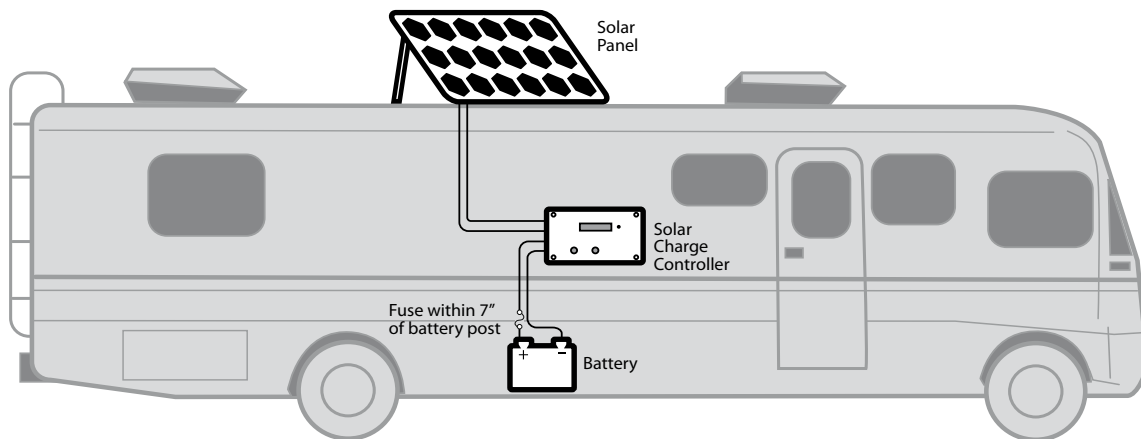

Fig. 4.1. Installation Block Diagram
### Block Diagram of Typical RV Installation (Fig 4.1)
**NOTE:** Solar Charge Controller and battery shown in Fig. 4.1 are shown as part of a typical 12V Solar Charging System installation. The Charge Controller and battery are not supplied as part of the kit.